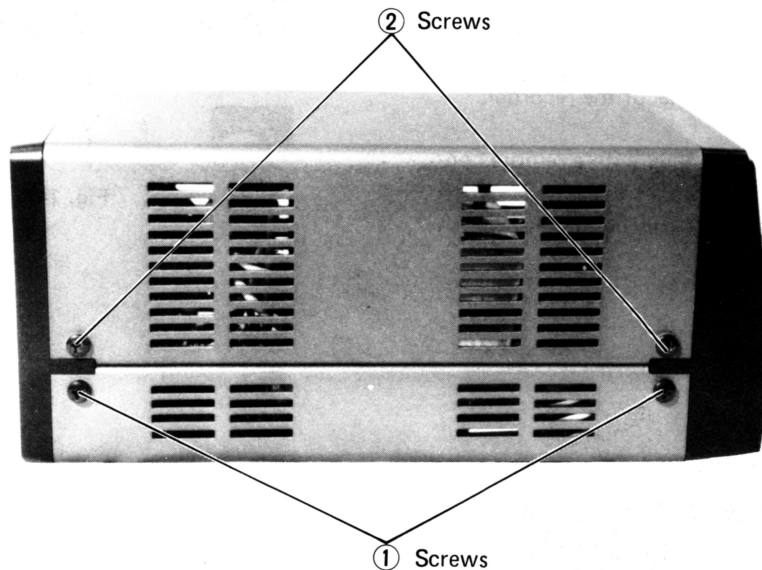

Fig. 2-1
1. Remove the four screws ① on the upper case as shown in Fig. 2-1. Then lift up the upper case.